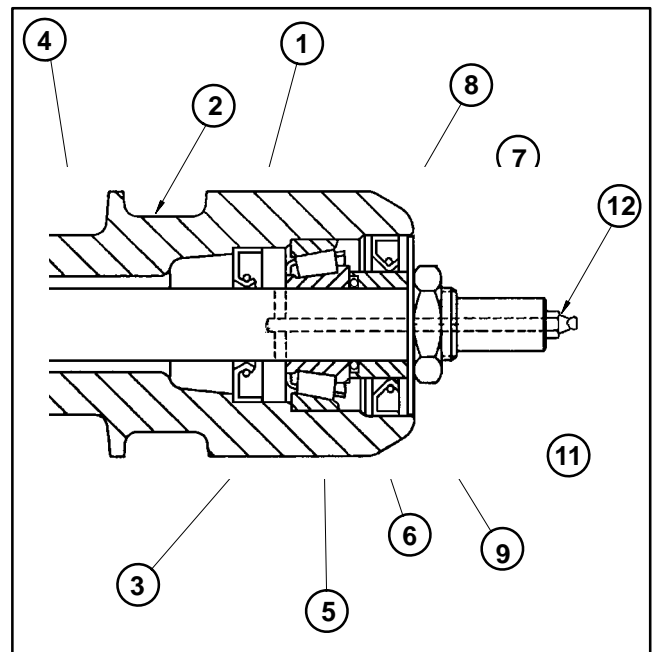

Figure 30
3. On the rear, wiehle, and sectional rollers, press **new** inner grease seals into the roller tube with the garter spring of the seal facing towards the center of the roller (Fig. 30).
12. On the rear, wiehle, and sectional rollers, press **new** outer grease seal into the roller tube with the garter spring of the seal facing towards the center of the roller (Fig. 30).